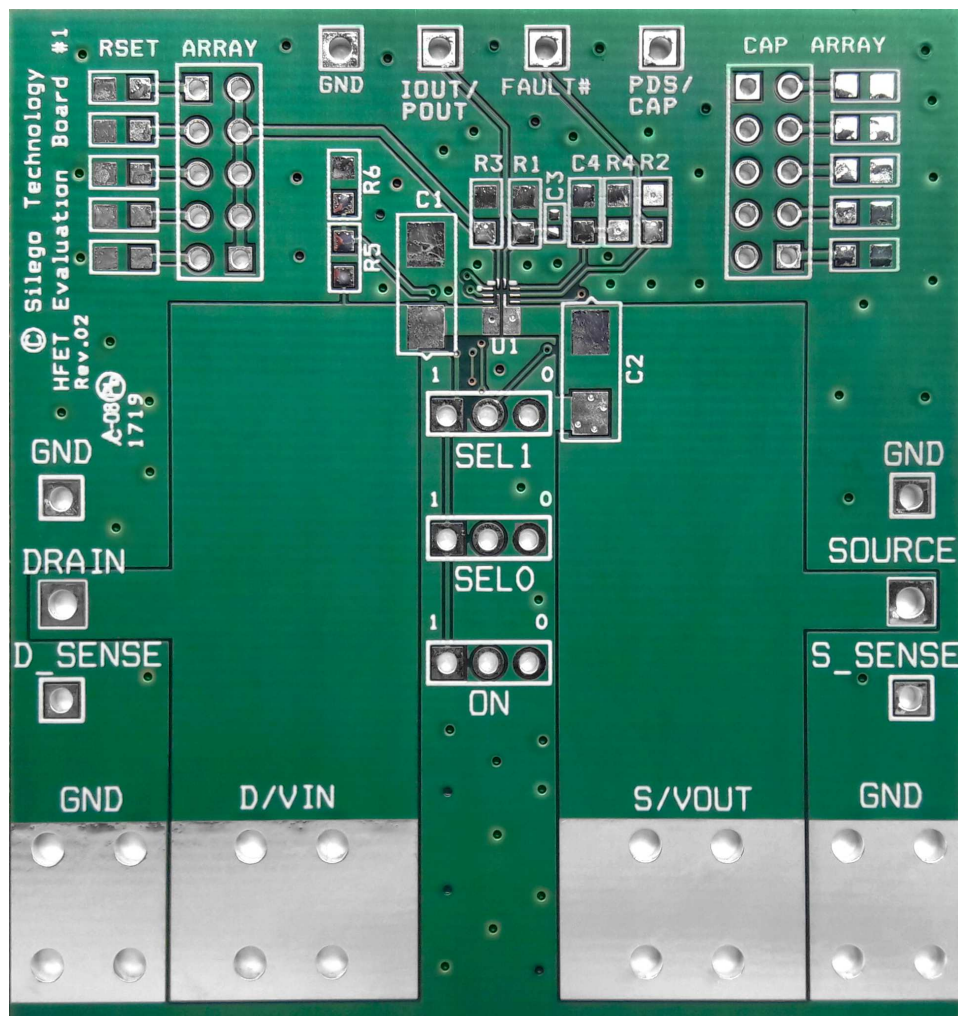

Figure 26. SLG59H1017V Evaluation Board
1. Since the V_{IN} and V_{OUT} pins dissipate most of the heat generated during high-load current operation, it is highly recommended to make power traces as short, direct, and wide as possible. A good practice is to make power traces with absolute minimum widths of 15 mils (0.381 mm) per Ampere. A representative layout, shown in Figure 26, illustrates proper techniques for heat to transfer as efficiently as possible out of the device;
A High Voltage GreenFET Evaluation Board for SLG59H1017V is designed according to the statements above and is illustrated on Figure 26. Please note that evaluation board has D_Sense and S_Sense pads. They cannot carry high currents and dedicated only for $R_{DS(ON)}$ evaluation.